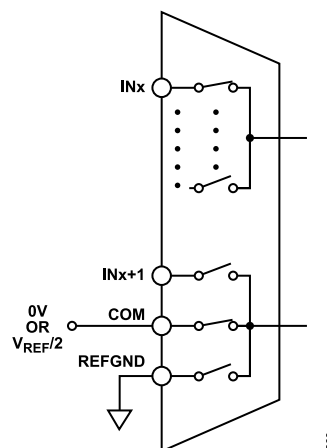

Figure 70. INx Paired with COM
- Figure 70, IN0 to IN7 paired with COM